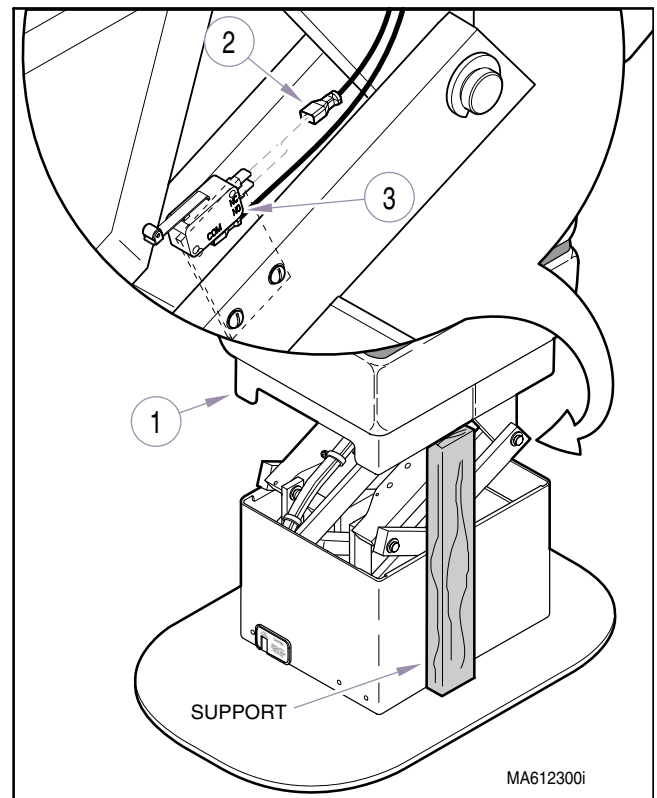

Figure 4-15. Base Up Limit Switch
- (1) Raise table all the way up; then lift outer shroud (1, Figure 4-15) and use a support to hold it up.
- (2) Move wire (2) from **N.C.** terminal of base up limit switch (3) to **N.O.** terminal.
- (3) Press Table Up footswitch until table stops moving.
- (4) Remove table top (Refer to para 4.3).
- (5) Remove shrouds (Refer to para 4.4).
- (2) Install gas spring (3) on brackets (4 and 5) and secure with four washers (2) and two shoulder screws (1). If both gas springs were removed, repeat step for remaining gas spring.
- (3) Move wire (2, Figure 4-15) from **N.O.** terminal of base up limit switch (3) to **N.C.** terminal.